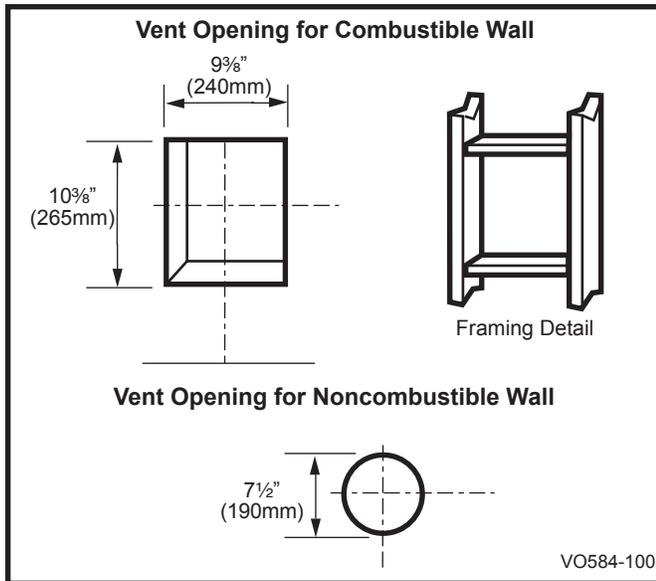

Fig. 18 Locate vent opening on rear wall.
**Combustible walls:** Cut a rectangular hole measuring 10⅜" H x 9⅜" W (265 x 240 mm) through the exterior wall and frame. Frame in the opening per Figure 18.
**Noncombustible walls:** Cut a round hole measuring 7½" (190 mm) diameter through the exterior wall and frame. (Fig. 18)